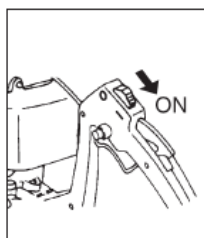

FIG. 3
- (1) Throttle lever
- (2) Lock button
3. Slide the ignition switch to the engine side to set it in the ON position. (Fig. 3)